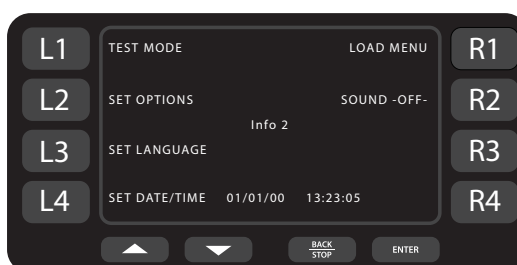
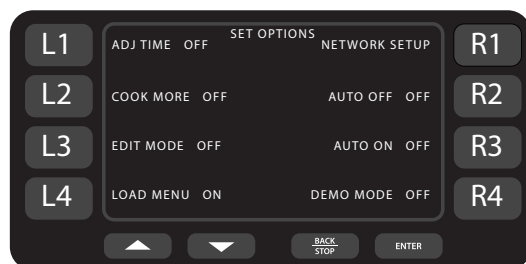
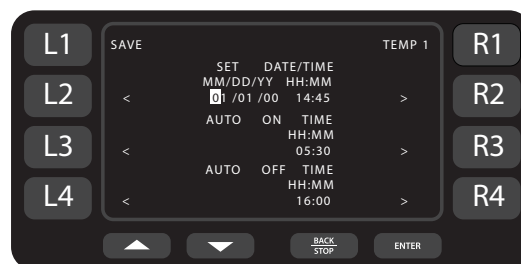

Figure 13: Info Mode Screen 2
Figure 14: Set Options Screen
Figure 15: Set Date/Time
From screen 2 of the Info Mode (Figure 13):
From screen 2 of the Info Mode (Figure 13), press the L3 soft key to scroll through available languages. Each time L3 is pressed, a different language is selected in the following order: English (default), Spanish, French, German, Portuguese, Italian, Russian, Greek, Polish.
From screen 2 of the Info Mode (Figure 13, page 11), press the L2 soft key to access the Set Options screen (Figure 14). When prompted, enter the password 9 4 2 8 and press the Enter key.
From screen 2 of the Info Mode (Figure 13, page 11), press the L4 soft key to access the Set Date/Time screen (Figure 15). From this screen, the real time, “auto-on” time, and “auto-off” time can be set.
An accurate real time is critical for using the auto-on and auto-off features. When these features are enabled from the Set Options screen (Figure 14), the oven automatically turns on and/or off at the specified times.
IMPORTANT: For auto-on and auto-off to be active, they must be enabled from the Set Options screen (Figure 14).
1. Go to screen 2 of the Info Mode (Figure 13, page 11).
1. Enable it from the Set Options screen (Figure 14, page 12).